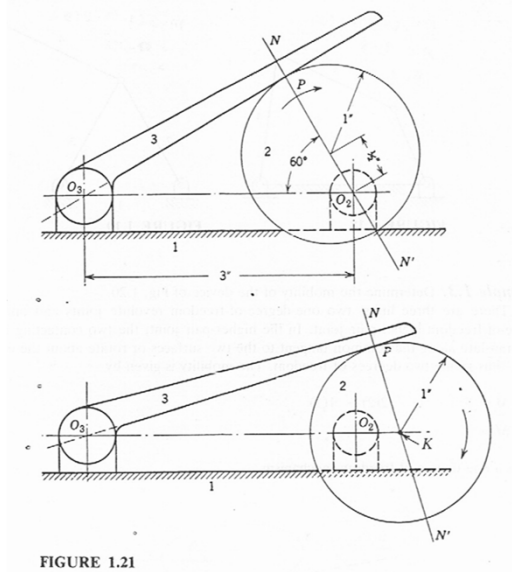

FIGURE 1.21
1.1. (a) If $\omega_2 = 20$ rad/min, calculate the angular velocity of link 3 for the two cases shown in Fig. 1.21. (b) Calculate the maximum angle and the minimum angle of the follower with the horizontal.